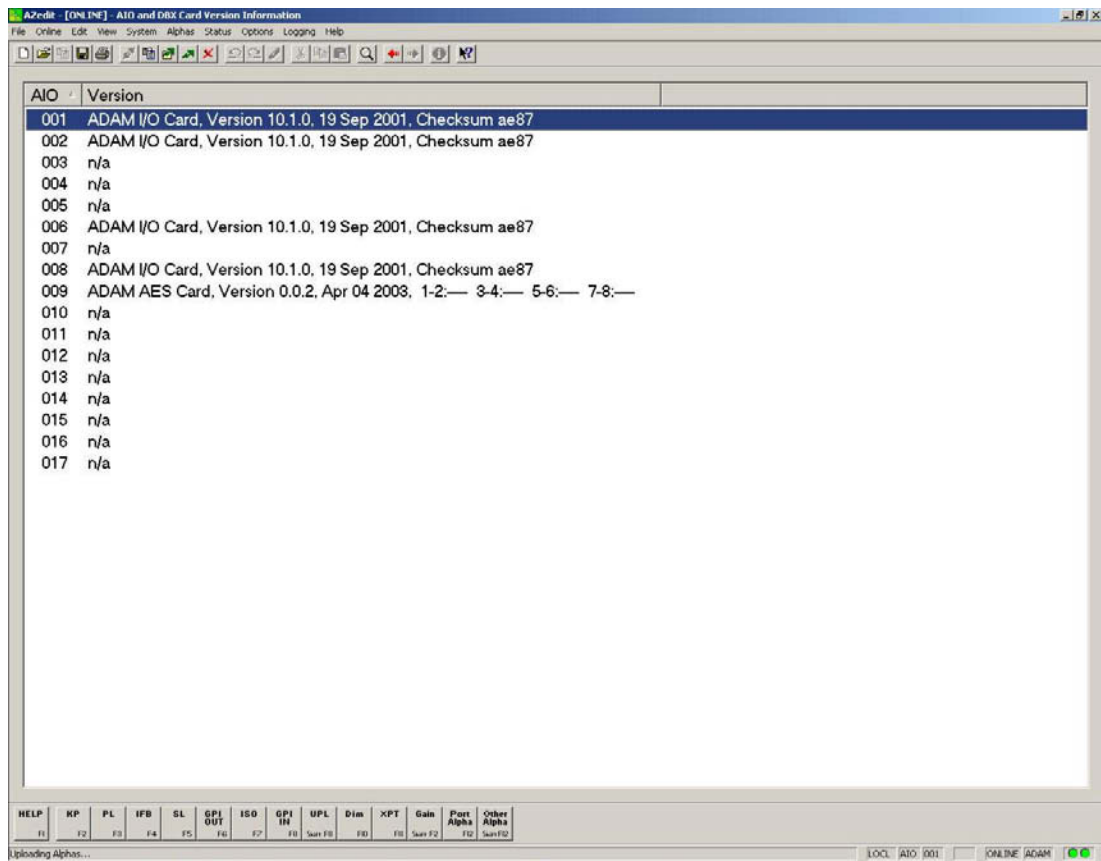

Figure 1. Verify software versions (steps 3,13, 25)
25. Install DBX back cards and DBX controller cards in all slave frames, power up these frames and download all slave DBX's. Verify I/O cards can be seen with proper versions in Status/Software Versions/AIO Cards. (fig. 1)